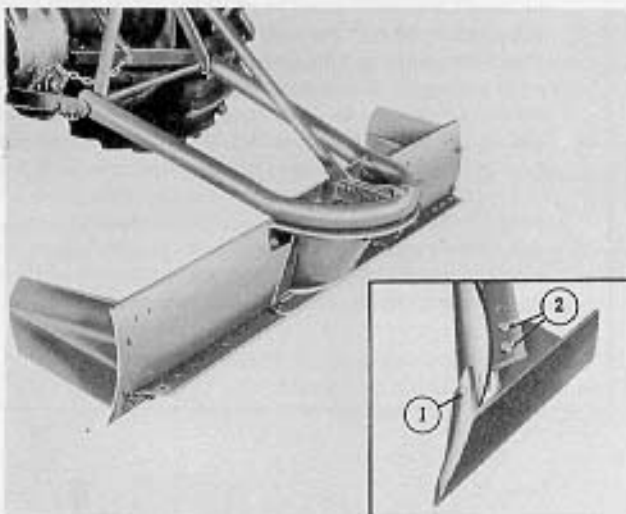

Figure 4
1. Position the point as shown in Figure 4 (See Insert).
2. Insert the plow bolt (1) and hex head bolt (2), Figure 4, and secure with the lockwashers and nuts provided.
Side Plates: The Side Plates, Part No. 194776, are attached as shown in Figure 4. Secure with the bolts, lockwashers and nuts provided.